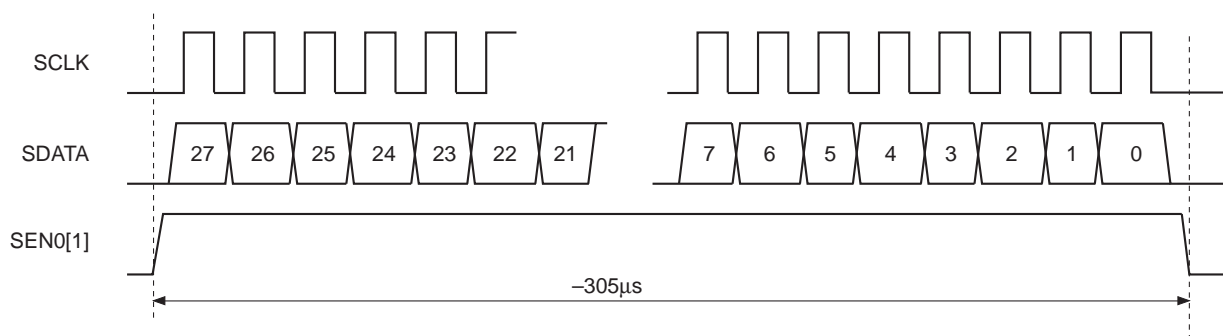

Fig. 7. 3-Wire Bus : Mode 1 Operation
- Mode 1** :The CPU loads 4 I2C bus registers inside the TCM demodulator with 28 bits of data. The CPU selects which SEN0 or SEN1 output should be used by programming the I2C bus register bit (SEL), and then commands (by setting an I2C bus register bit SEND) the 3-wire bus state machine to transmit these 28 bits out of the 3-wire interface as shown in Fig. 7. When the transmission is complete, the I2C bus register bit (SEND) is reset to zero by the 3-wire bus state machine. This allows the CPU to poll the SEND bit to determine when it is able to write further data to the 3 I2C bus registers if it is necessary to send more data. The rate of transmission is fixed at 10.67μs per bit when using a 30MHz crystal oscillator on the CXD1958Q demodulator IC. The bit ordering of transmission starts with bit 27.